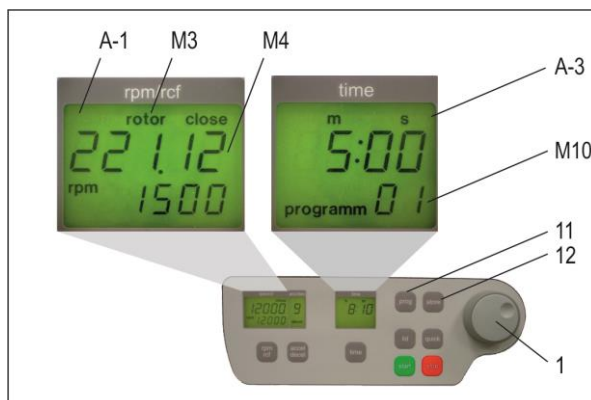

Figure 22
Put the desired rotor into the centrifuge. By pressing the key, "prog" (11), in the display "time" (A-3) appears the word "program", (see Figure 22). With the adjustable knob (1), choose the desired program number.